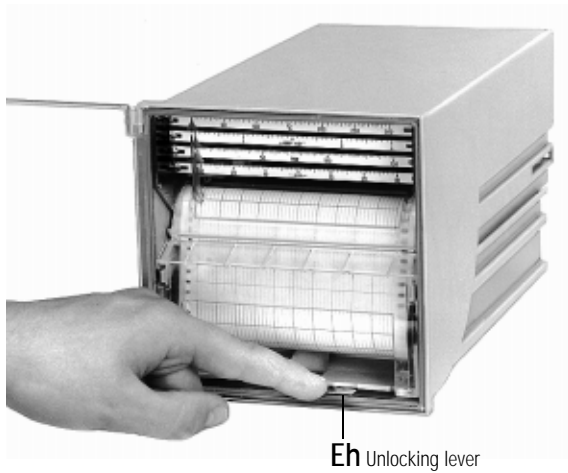
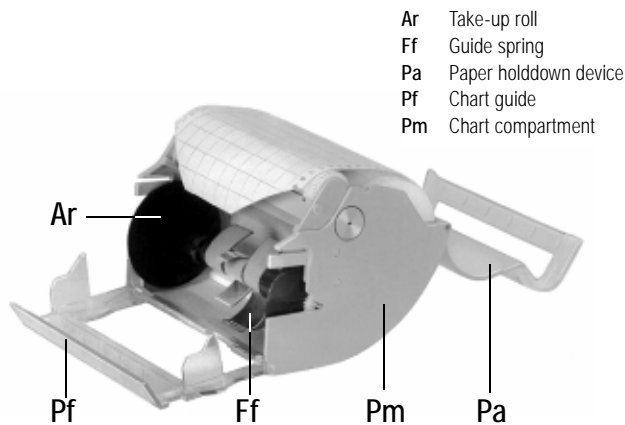
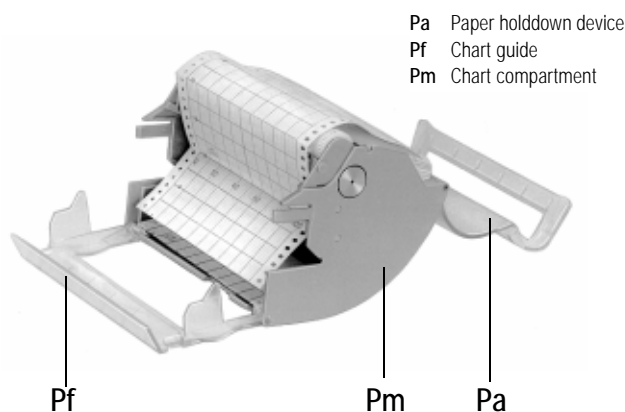

Figure 5 Unlocking the recording table
Figure 6 Recording table for roll chart
Figure 7 Recording table for fanfold chart
(see figure 5 and figure 6)
1. Unlock the recording table: Press the unlocking lever **Eh** downwards (see figure 5). The recording table tilts to the front. Remove the recording table.
(see fig. 5, fig. 6 and fig. 7)
When changing the recording table for roll chart to fanfold chart, remove the guide spring **Ff** (see figure 6).
1. Unlock recording table: press locking lever **Eh** down (see figure 5). Recording table swivels to the front.